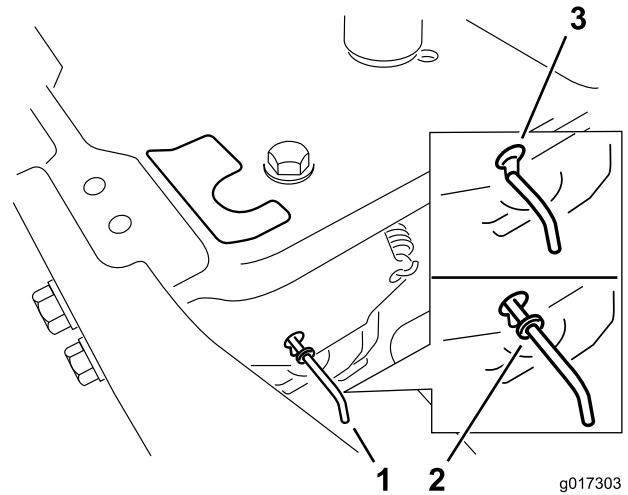

Figure 24
- Move the bypass levers forward through the key hole and down to lock them in place as shown in Figure 24. Ensure this is done for each lever.
Move the bypass levers rearward through the key hole and down to lock them in place as shown in Figure 24. Ensure this is done for each lever.